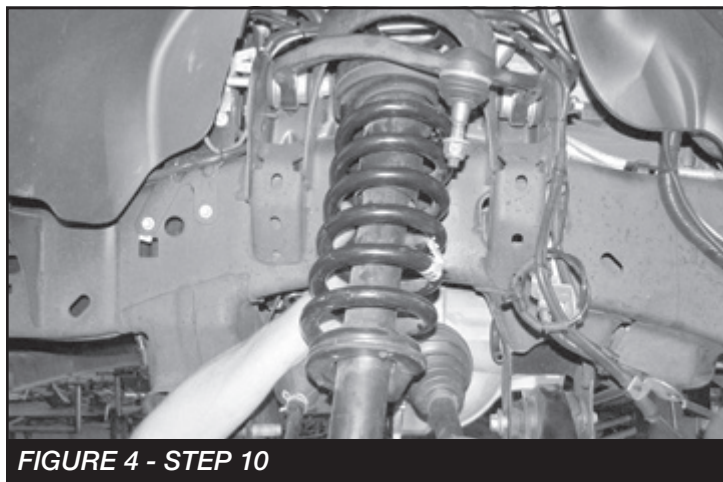

FIGURE 4 - STEP 10
10. Locate the lower shock mount bolt and remove. Save the hardware. Locate the three upper nuts and remove. Save the hardware. Remove the shock assembly from the vehicle and mark "Driver" for reassembly later with Fabtech shock. **SEE FIGURE 4**